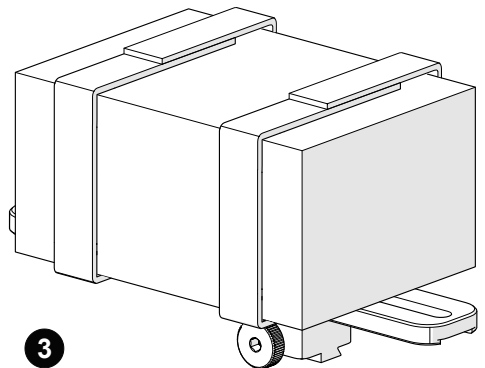

Fig. 81 - Mount bracket on a frame bar
3. Secure the preamp to the bracket attaching each side of the velcro (Fig. 81).